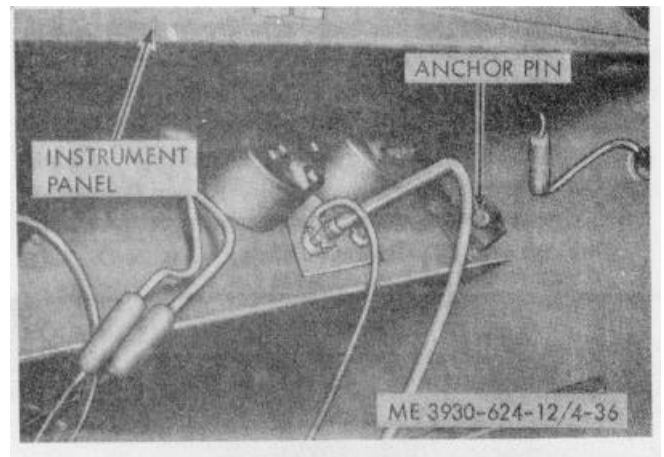

Figure 4-36. Instrument panel anchor pins.
(3) Swing the instrument panel back and down to release it from the anchors on the side panels, and lift the assembly from the truck (fig. 4-36)